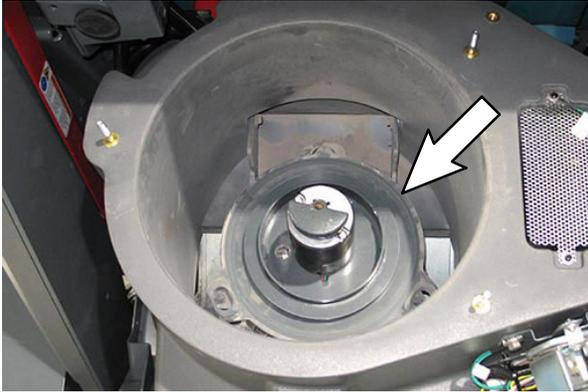

FIG. 5
1. Disconnect the main wire harness from the filter shaker assembly. (Fig. 5)
2. Remove the filter shaker assembly from the hopper. (Fig. 5)